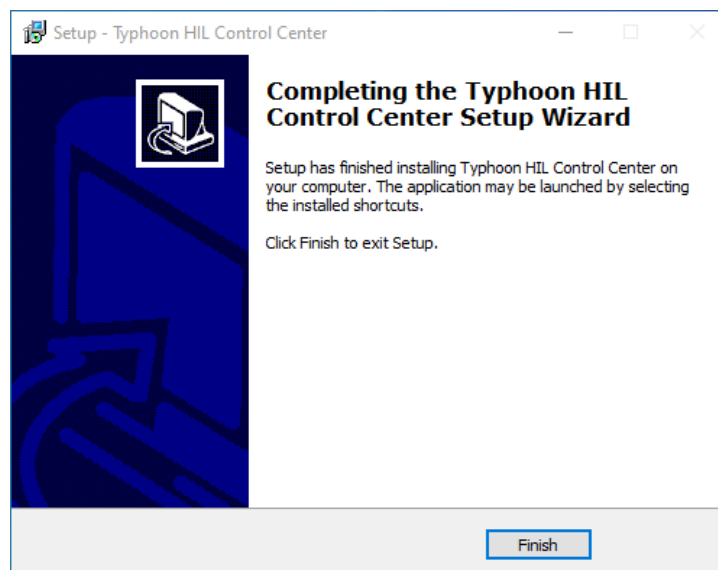

Figure 4.3. Complete the installation by clicking on Finish
3. At the end of the installation process, you will be asked to launch the *Typhoon HIL Control Center* (Figure 4.3). Do not choose that option yet, but finish the installation.